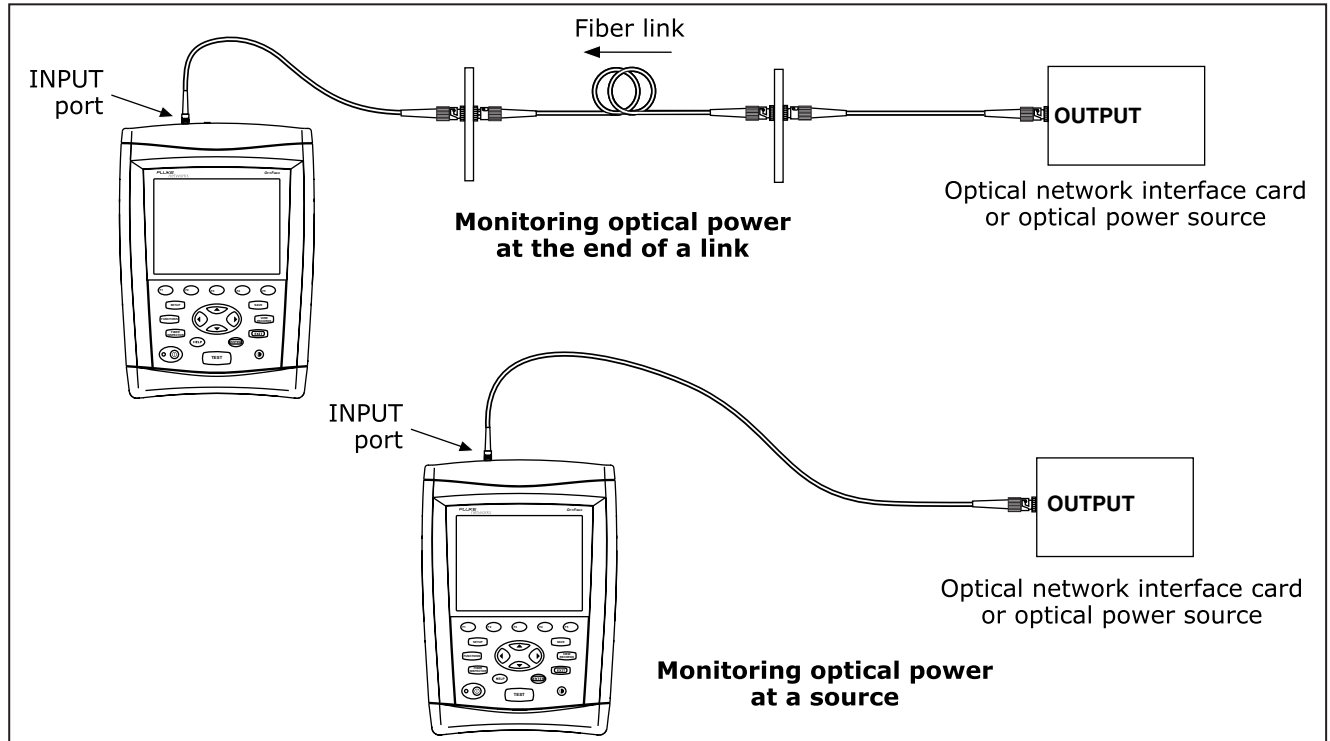

Figure 7-2. Connections for Monitoring Optical PowerPower Meter Results
3. Use the patch cord to connect the source to the tester's INPUT port, as shown in Figure 7-2; then turn on the source.